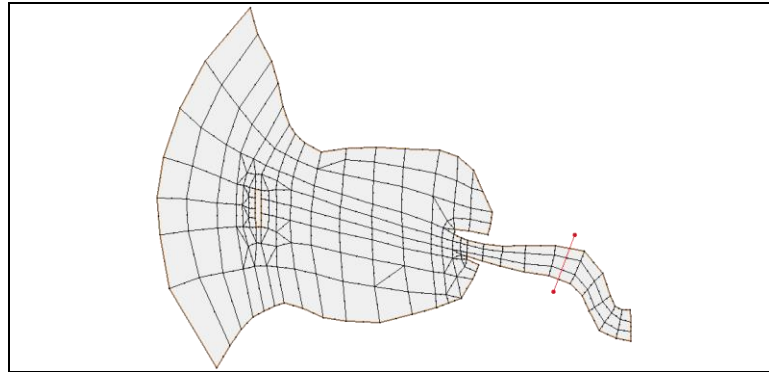

Figure 22 Observation arc across the noyo1 mesh
10. Using the **Create Feature Arc**  tool, create an observation arc across the mesh (Figure 22).